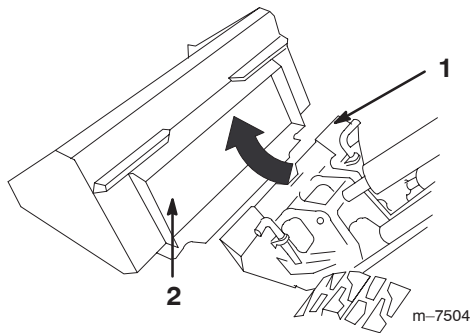

Figure 25
- Position mount plate into the upper lip of the attachment receiver plate (Fig. 25).